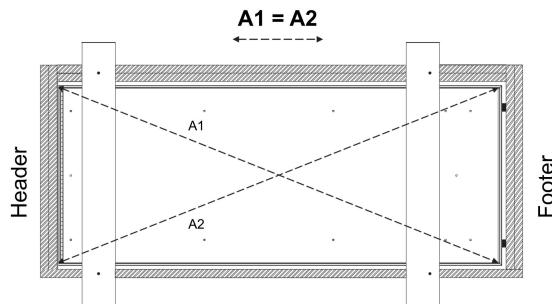

FIGURE 13 : SQUARING THE ATTIC LADDER
K. Before continuing, Installer #1 must measure the diagonals of the aluminum frame to ensure the attic is square. Diagonal measurements A1 and A2 should match within $1/8"$. See **Figure 13**. If not, your attic ladder door may not close properly. If measurements do not match, adjust the attic ladder moving the footer end side-to-side. This may require adjusting the shims. Be sure to keep the header/hinge end centered in the rough opening as you square the attic ladder. Use shims if necessary.